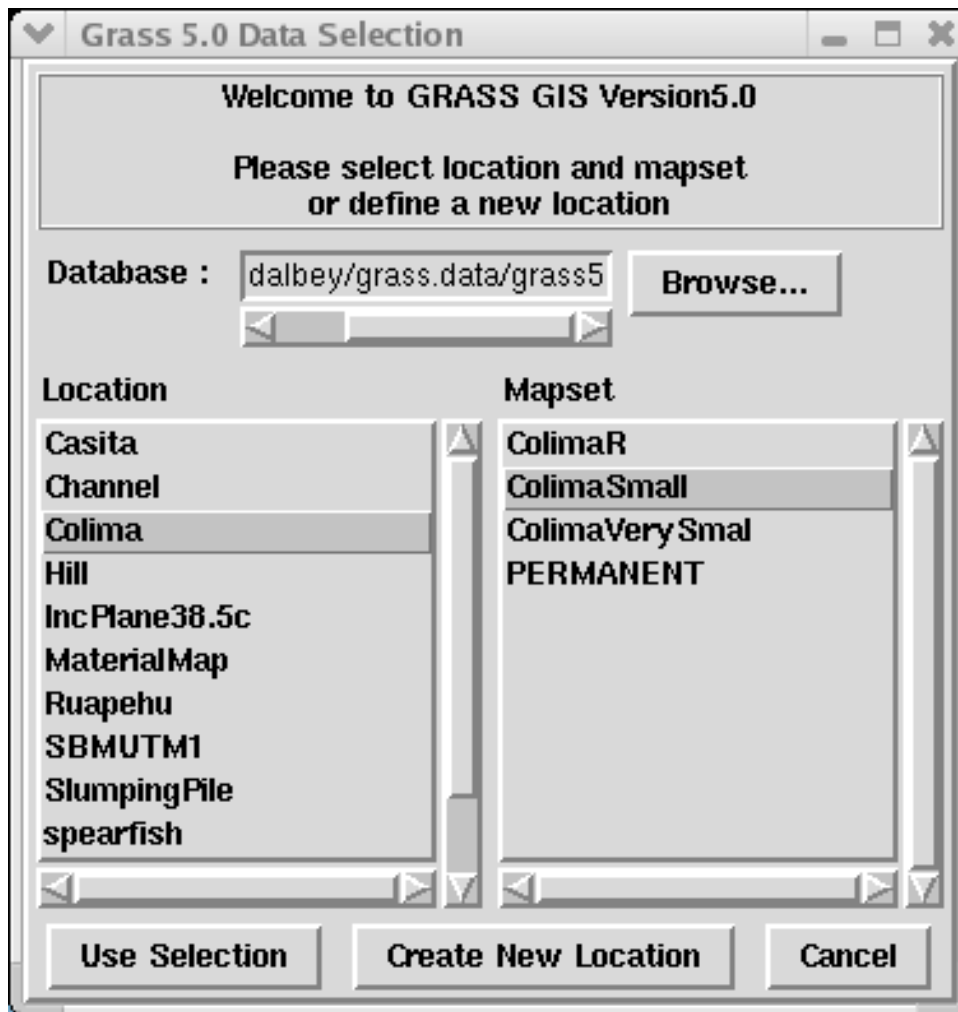

Figure 3.11: GRASS GIS map-set selector window
3. Specify the location of the GRASS mapset by clicking on the desired DEM file name in the pop-up window (figure 3.11).